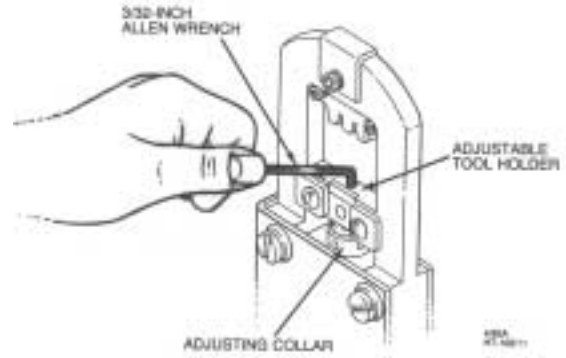

Figure 11
- 2 Insert a 3/32-inch Allen wrench into the hole in the adjustable tool holder and into the socket head setscrew (see Figure 11). Turn the setscrew ¼ turn counterclockwise to unlock the adjusting collar.